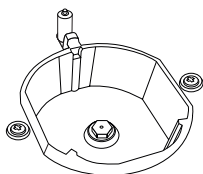
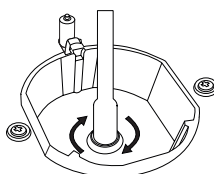

Figure 6
Figure 7
2. Please remove nozzle (figure 6) from burner with special nozzle driver and install new nozzle. (figure 7)